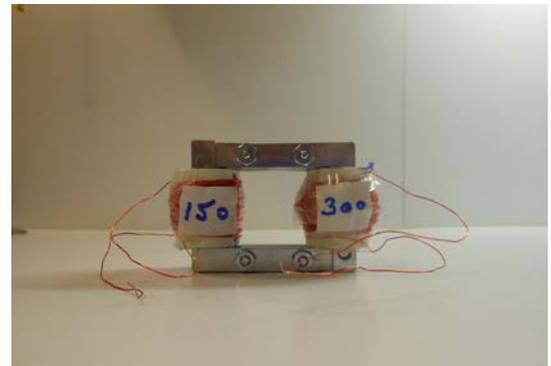

Fig. 10
6. They should wind 150 turns onto one piece of pipe and 300 turns onto the other. This should be done slowly and deliberately, with both students counting. It is easy to lose count! See Fig. 10.
10. Place one of the coils on each of the two legs of the "U". See Fig. 12. Then gently interleave the remaining 12 brackets across the top of the "U" so that the whole forms a square. Insert two more of the bolts through the holes in the core and tighten all four bolts securely. You should then have your finished transformer as shown in Fig 10 above.